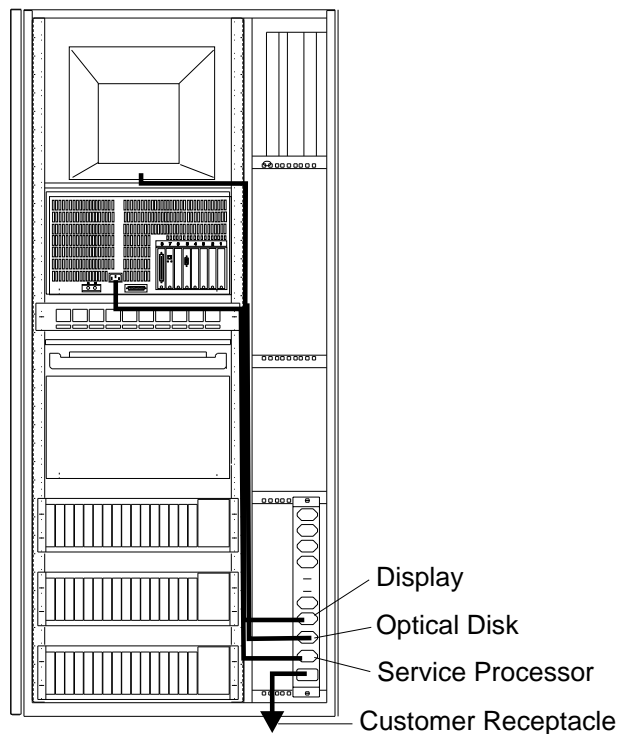

Figure 1-41. Power Cords Connection
20. ____ Route and connect the power cords (PN 58G5783) from the display, optical disk drive, and service processor unit to the ac outlet distribution box as shown in Figure 1-41. Secure these cables using tie clamps along the frame, then go to step 22 on page 1-39.